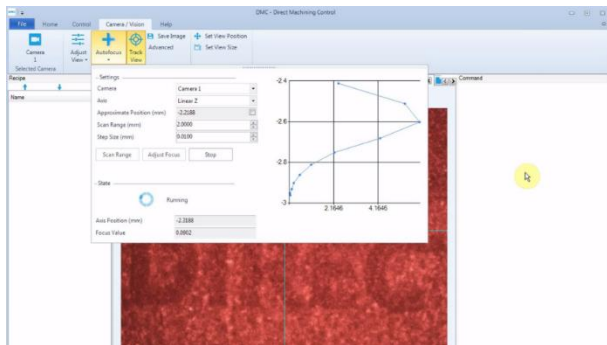

Figure 3. Camera view is used to find camera and laser focus position automatically.
- **User is using coaxial camera positioned by galvo scanners. Camera and laser focus height matches almost perfectly. So, DMC camera Autofocus tool is used to find laser focus position (Figure 3). A special tool was developed to create height maps by measuring focus position on the wafer in various positions. After that, fabrication recipe is automatically transformed to match the height differences on the sample. Alternatively, a Keyence height sensor might be used for better measurement accuracy.**